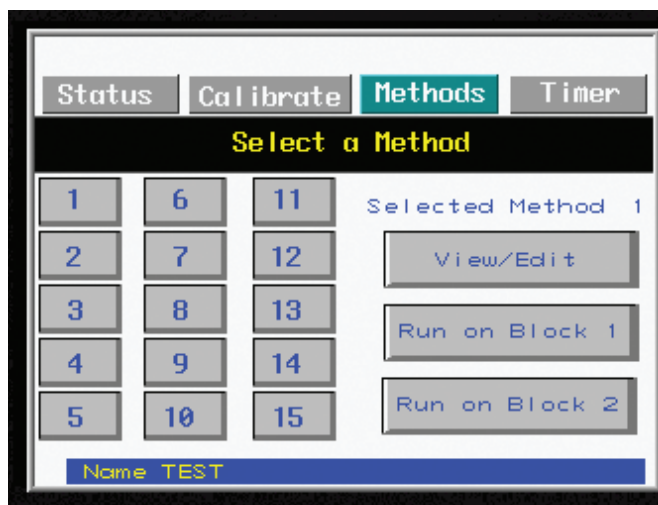

Figure 1. Selecting Method from the main menu will take you to the screen shown above (Figure 1). Click on the Method Number you wish to program.
- To program a method, select the METHODS tab on the controller. Select the Method Number you wish to program, then select View/Edit (Figure 1).
Name your method AFTER programming all your steps and parameters as described on page 10. To name a method, go to the METHOD tab. Select the method number you wish to name, then click on VIEW/EDIT. This will take you to the screen shown here (Figure 1). Click on the GRAY BAR (indicated in figure 1 by the red arrow) at the top of the screen under the TABS. When you click on this bar, a pop-up keypad will allow you to type in the method name. Then press ENTER. When you choose the METHOD NUMBER you wish to run, the METHOD NAME will appear in the BLUE BOX at the bottom of the METHOD screen (see METHOD screen, Figure 2).
Method Screen, Figure 1. When you click on the gray bar, a pop-up keypad will enable you to type in the method name.